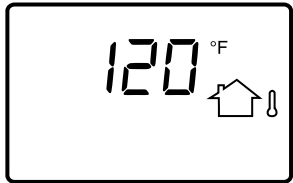
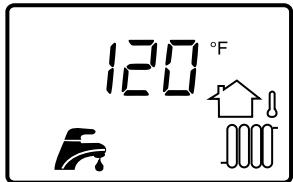

Figure 14-4: Home Screen at Power Up (no call for heat)
Figure 14-5: Home Screen with CH and DHW Demands
1. Start boiler using lighting instructions in Figure 14-9. With boiler powered up, and with no call for heat, display should look like Figure 14-4. Once a call for heat is present, it will look like Figure 14-5.